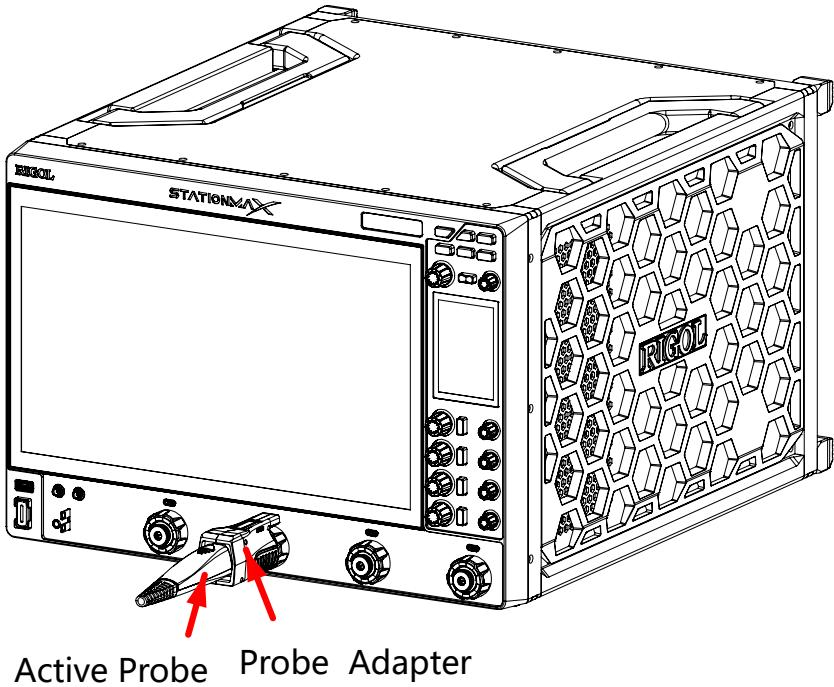

Figure 4.6 To Connect the Active Probe
2. Connect the other end of the preamp to an analog channel input terminal on the front panel of the oscilloscope via the probe converter, as shown in Figure 4.6.